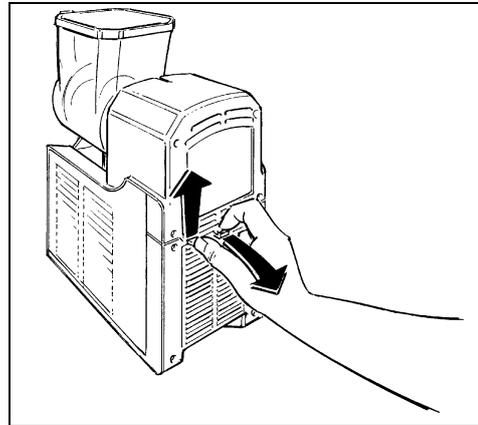

Fig. 8
- Remove the rear panel releasing the plastics knobs and pulling them towards you as shown in figure 8;